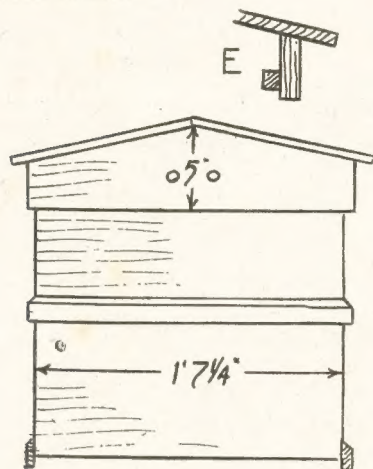

Fig. 1—Front elevation of hive
A front elevation of the hive, less stand, is given in Fig. 1 and a side elevation in Fig. 2. From these drawings the general dimensions can be taken. The hive is in three parts (A), (B) and (C), parts (B)